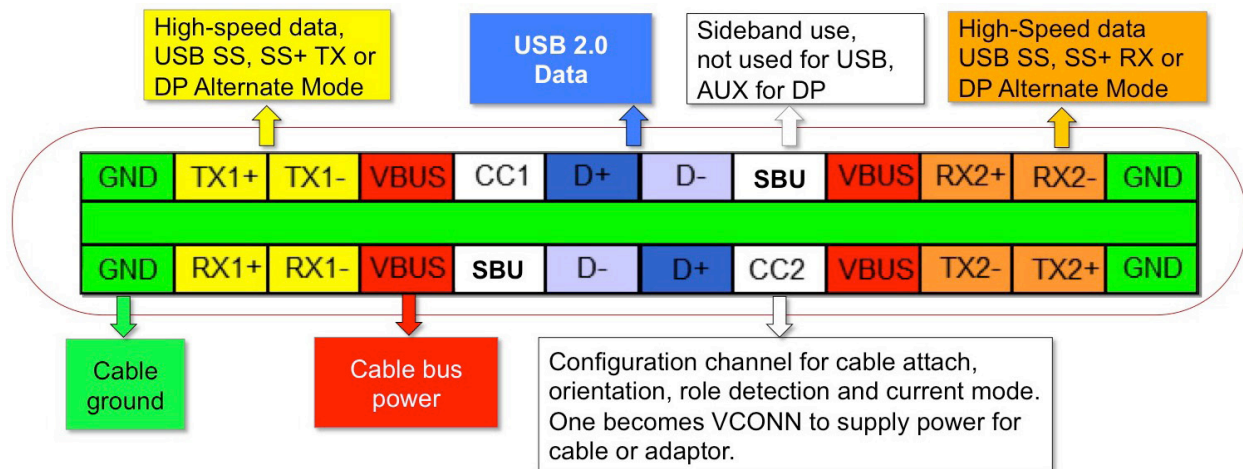

Figure 2. USB Type-C receptacle pin out.
USB Type-C is a flippable interface with a small form factor of less than 3 mm in height. The flip-ability of cable is enabled through dual redundancies of pins in the port/receptacle and plug. Direction through these pins is handled by multiplexing based on the cable orientation. Type-C port/receptacle pins, as shown in **Figure 2**, comprise of USB 2.0 D+/D- data bus, USB 3.1 transceiver/receiver (TX/RX) pairs, configuration channel (CC) for cable attach detection, cable orientation detection, role detection and current-mode detection.